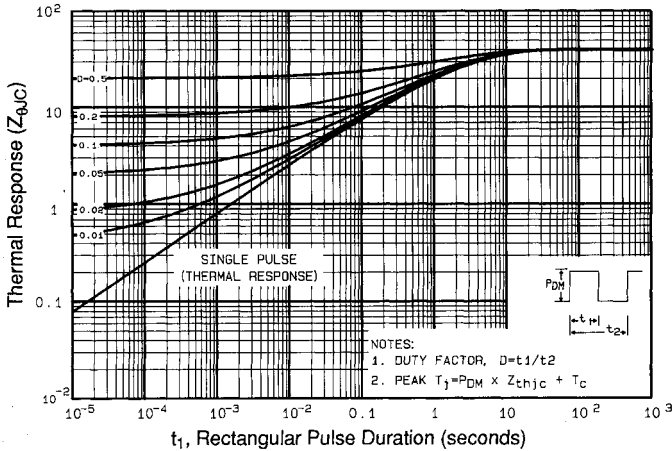

Fig 11. Maximum Effective Transient Thermal Impedance, Junction-to-Case
- ① Repetitive rating; pulse width limited by max. junction temperature (See Figure 11)
- ② $V_{DD}=25V$, starting $T_J=25^\circ\text{C}$, $L=16\text{mH}$